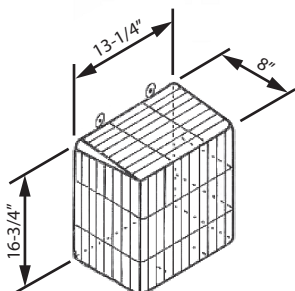

Figure 3a Terminal Guard
**Sidewall vent terminations within 7' of grade require a terminal guard when used with a 551DVK. See figure 3a.**